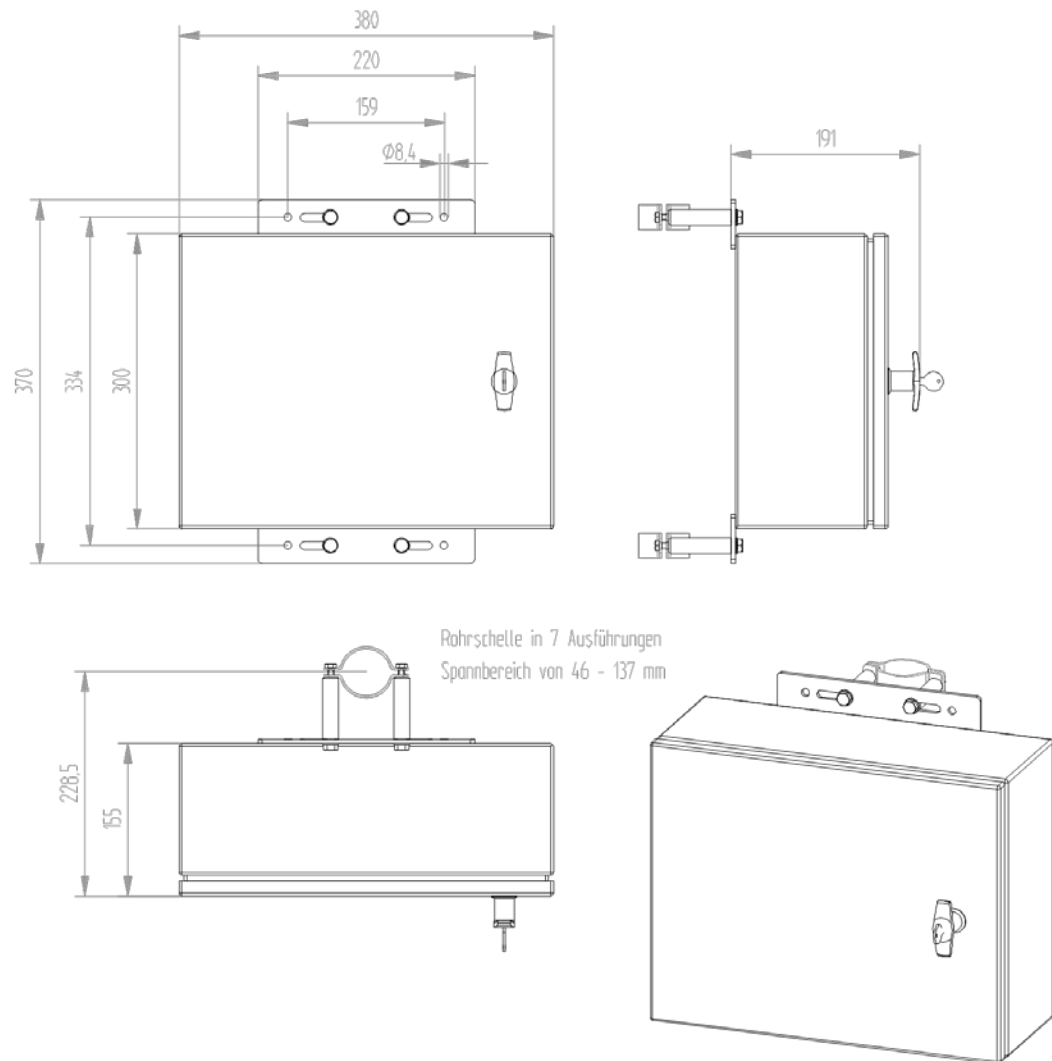

Figure 7: Dimension illustration of the case version A (9.175x.10.x0x) (in mm)
- diameter 8.4 mm, see **Figure 7: Dimension illustration of the case version A (9.175x.10.x0x) (in mm)**